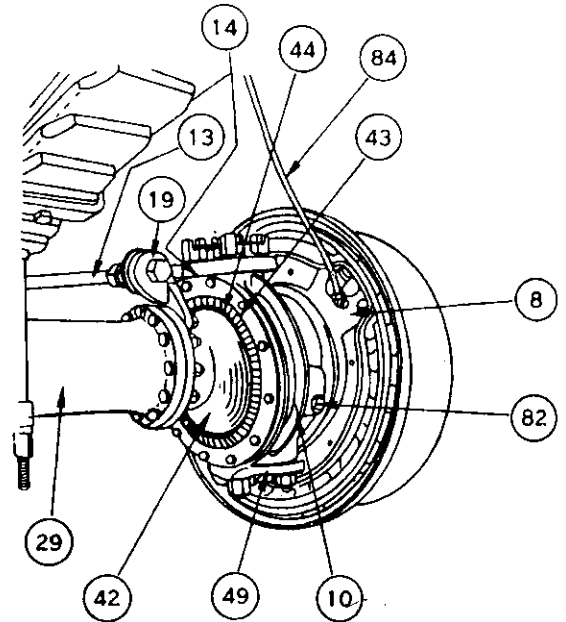

FIG 11 - LEFT HAND FRONT WHEEL
- f. The brake shoes are removed and the brake hose (item 84, fig 11) disconnected from the wheel cylinder on the inner face of the brake torque plate.
- b. Remove the 11 cap screws from the inner face of the tracta housing outer to allow the rubber sealing ring and metal spacer rings to come free (fig 11).
e. Mate the bell housing flange to the axle housing with gasket and retain by one of the flange bolts. The rubber sealing ring and locating rings must now be moved over the flange to hang on the bell housing. All of the 12 high tensile flange bolts can be fitted, the three longer ones also securing the shock absorber bracket in position at the top of the flange (facing as shown in fig 11). These bolts are tightened to a 75 lb ft torque.